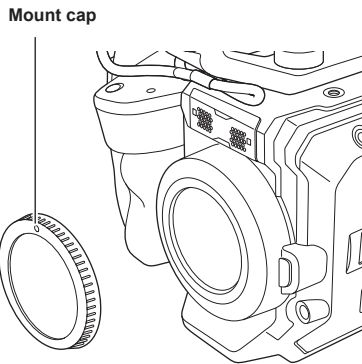

Fig. 1
- 2 Remove the mount cap. (Fig. 1)**